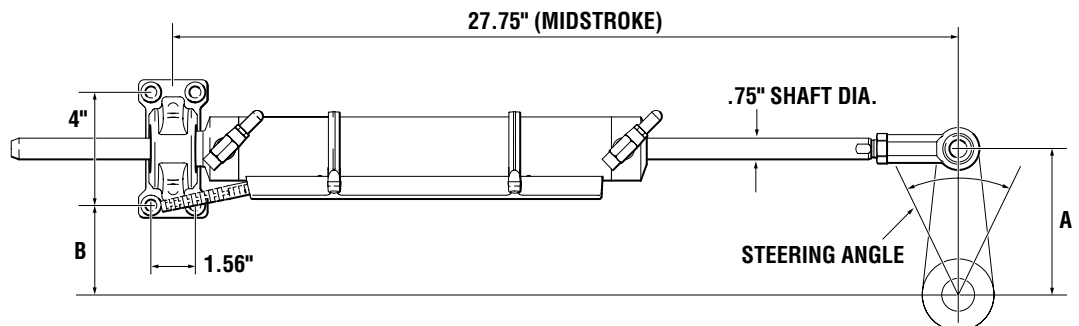

Figure 5-18.
2. Secure rod end to tiller arm using the supplied hardware as shown in figure 5-18. Torque the nut to 43 ft-lb (58.3 Nm).
3. Place mounting foot in location indicated in figure 5-18 and table 5-3 for desired steering angle.